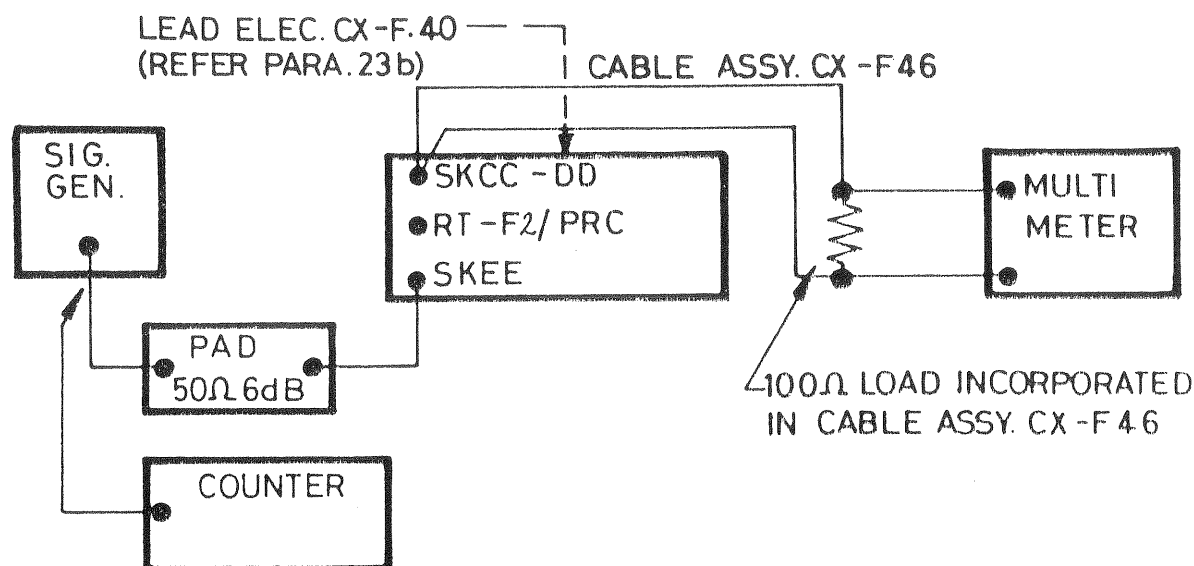

FIG 2 – RECEIVER OVERALL FREQUENCY RESPONSE (AGC-DISABLED) – TEST SET-UP
- Set up equipment as shown in Fig 2.